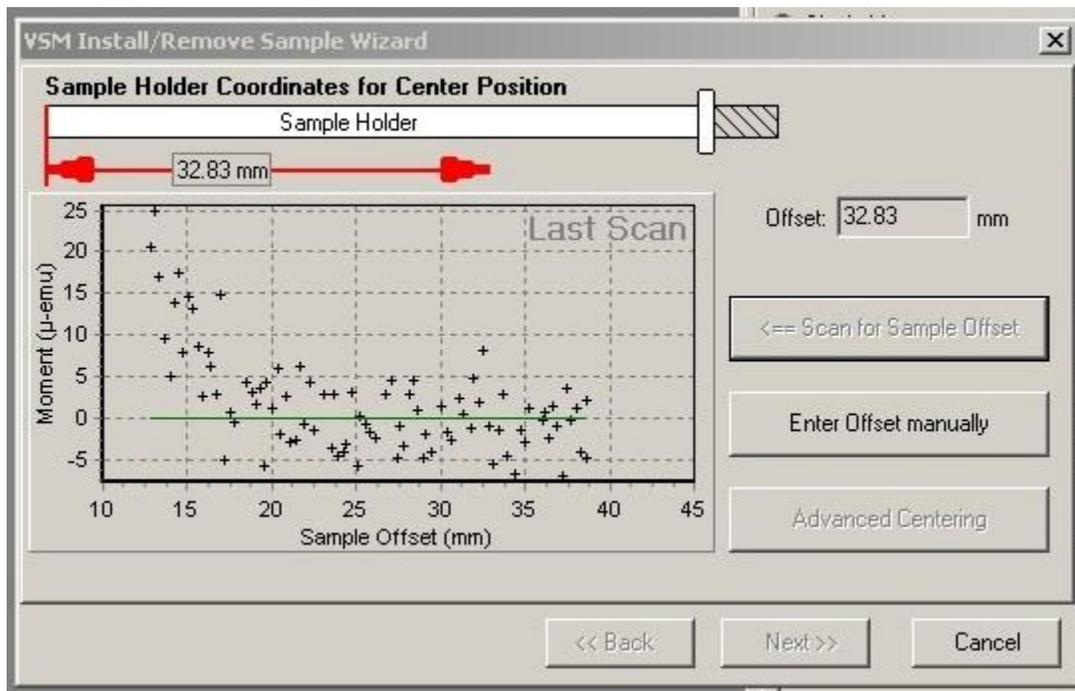

Figure 7. Sample centering scan dialog.
4) Clicking "Next" again will bring you to the sample centering dialog (Figure 7). Since this is only a measurement of your mounting media, we will choose a high field in order to determine what the maximum contribution might be. Feel free to set the field between 1 and 3 T (or 10,000 to 30,000 Oe).